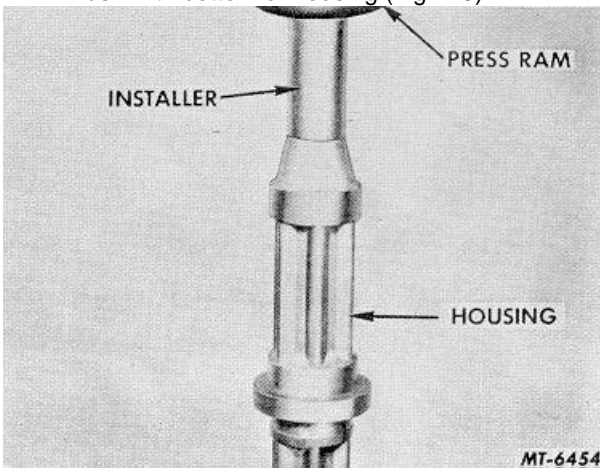

Fig. 43 Installing Lower Bushing Using Bushing Installer SE-1955-8
9. Position distributor housing on press. Insert bushing installer SE-1955-8 into bushing and press bushing in flush with bottom of housing (Fig. 43).